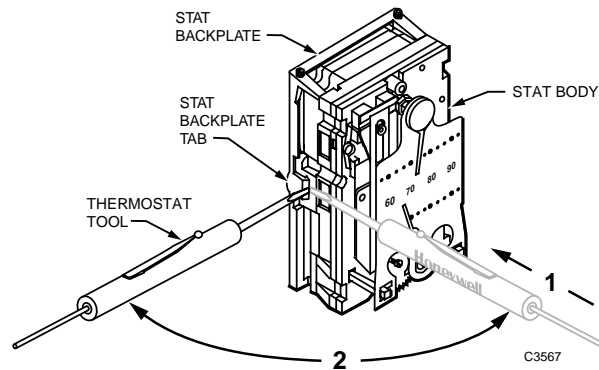

Fig. 52. Loosening Stat Body from Quick-Mount Stat Backplate.
1. Insert blade of Thermostat Tool between stat body and backplate tab. Push in about 1/4 in. (Fig. 52).